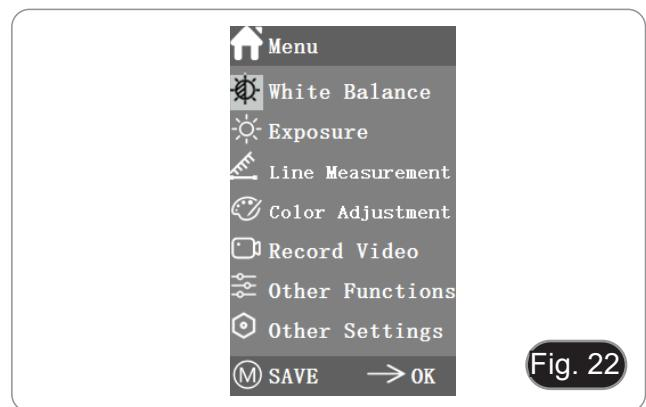

Fig. 22
2. The current position of the cursor (that is, the position of the highlighted icon) is the White Balance function option. (Fig. 22)